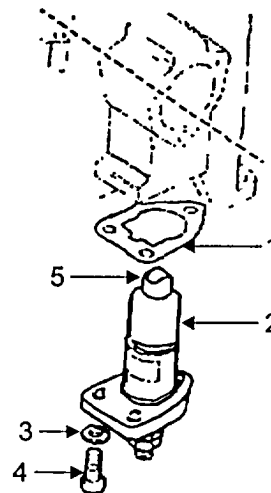

Figure 4-6. Oil Pump
1. Replacing the Lube Oil Pump (Figure 4-6).
- b. Remove three cap screws (4) and washers (3).
- c. Remove oil pump (2) and gasket (1) from compressor crankcase.